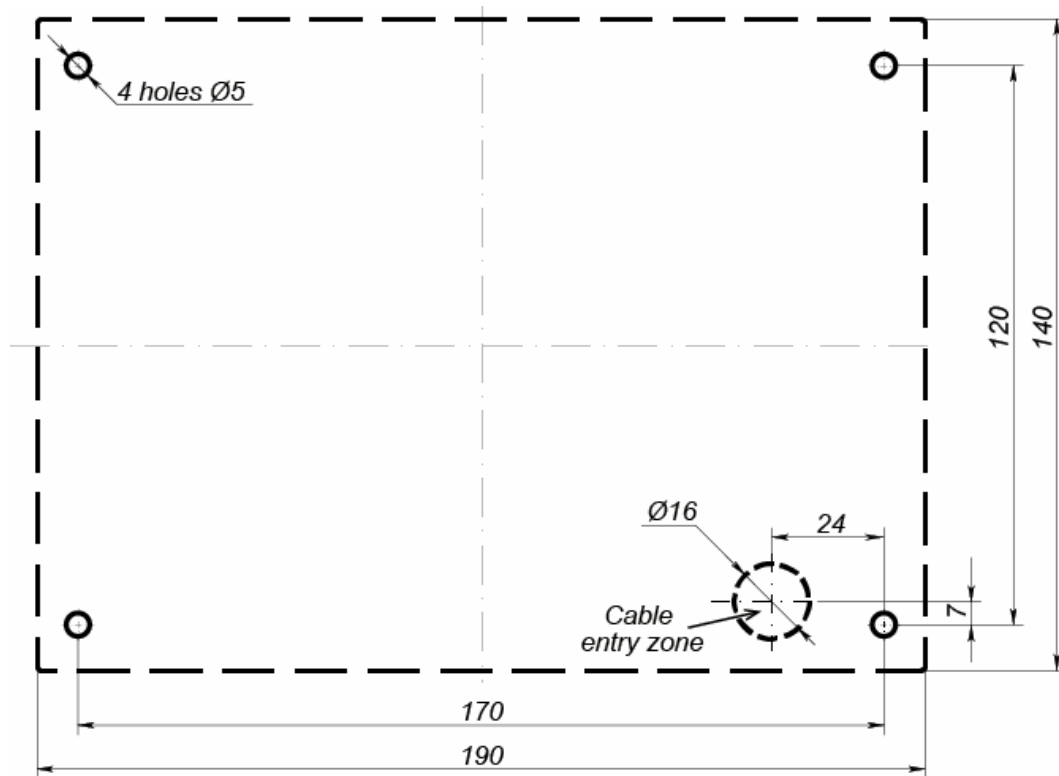

Figure 2. Hole spacing for controller installation (housing dimensions and a hole for cable laying are dotted)
3. Mark and prepare holes on installation surface for the metal base mounting and power and *Ethernet* cabling (Fig. 2).